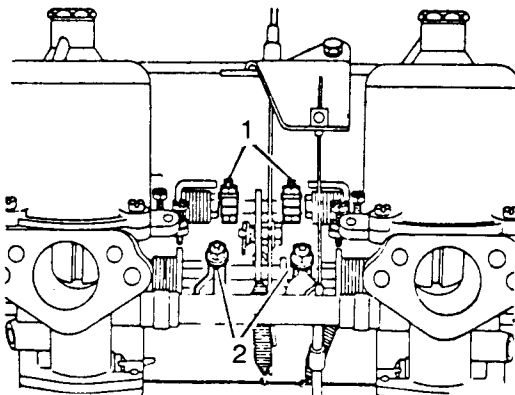

Fig C6.1
- (3) Refer to Fig C6.1. Slacken both clamping bolts (1) on the throttle spindle interconnection.
- (4) Slacken both clamping bolts (2) on the cold start interconnections.